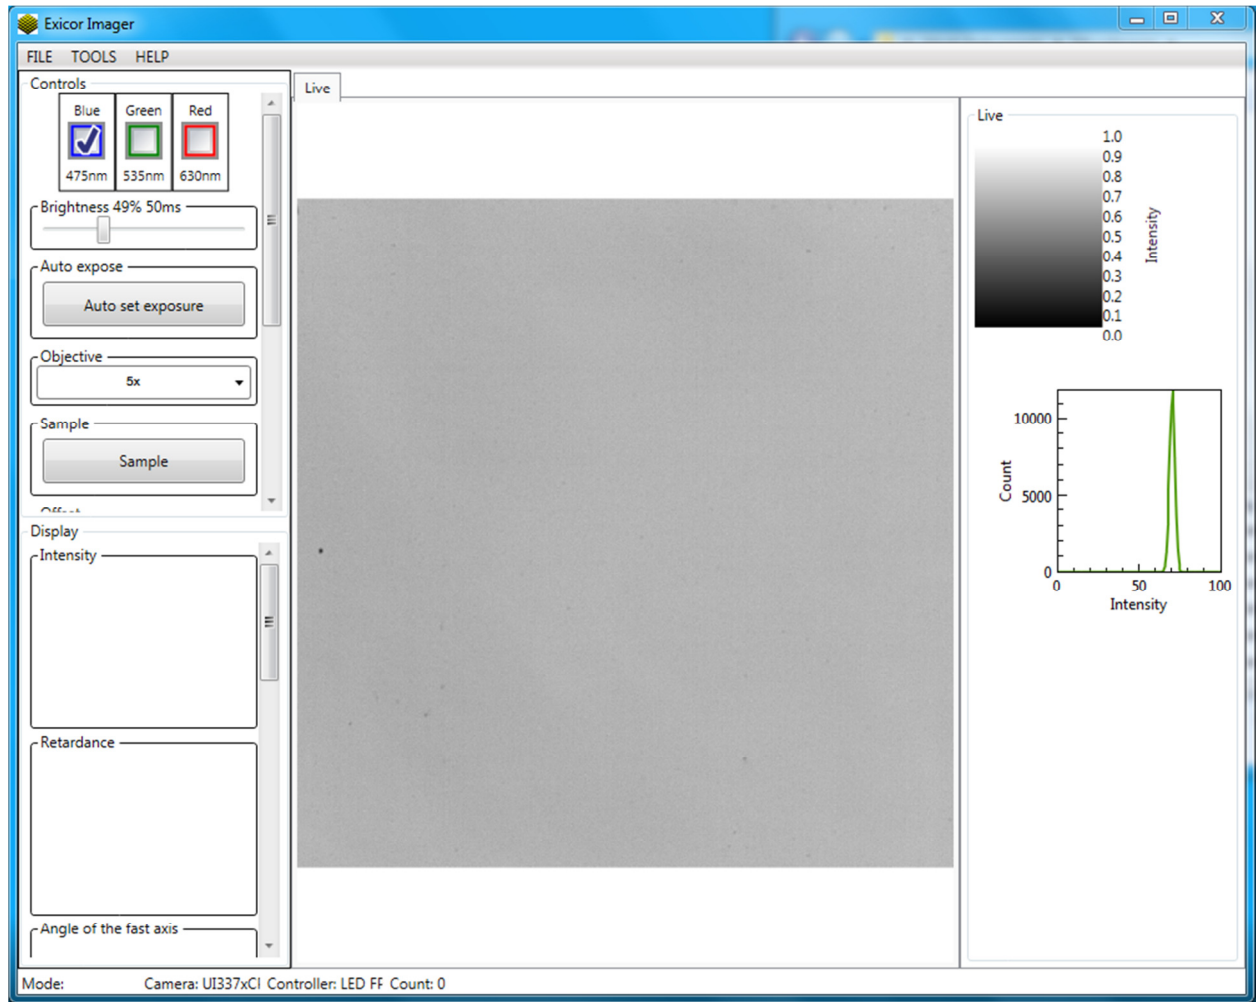

Figure 21.
2. Open software. You will see a screen similar to Figure 21.